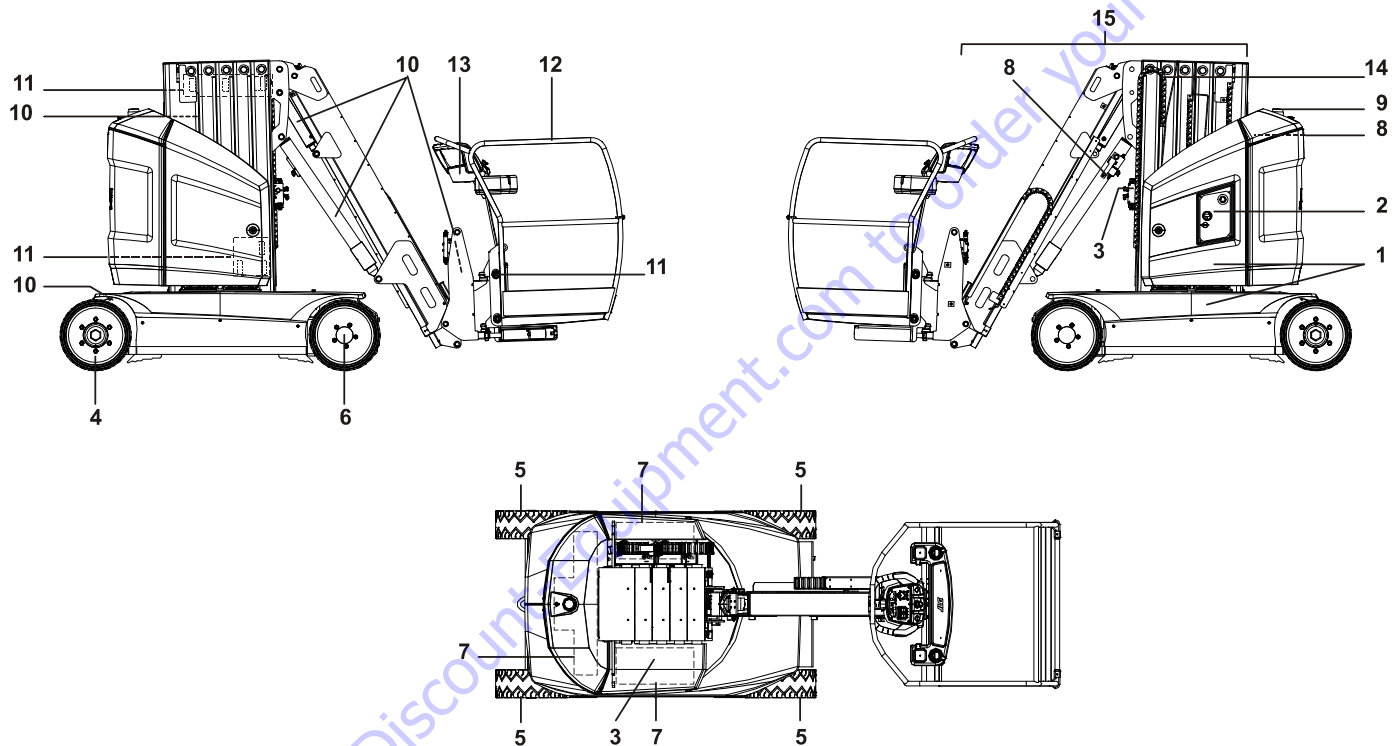

Figure 2-1. Daily Walk-Around Inspection
5. **“Walk-Around” Inspection** – Refer to Figure 2-1.
Begin the "Walk-Around Inspection" at Item 1, see Figure 2-1. Continue checking each item in sequence for the conditions listed in the following checklist.